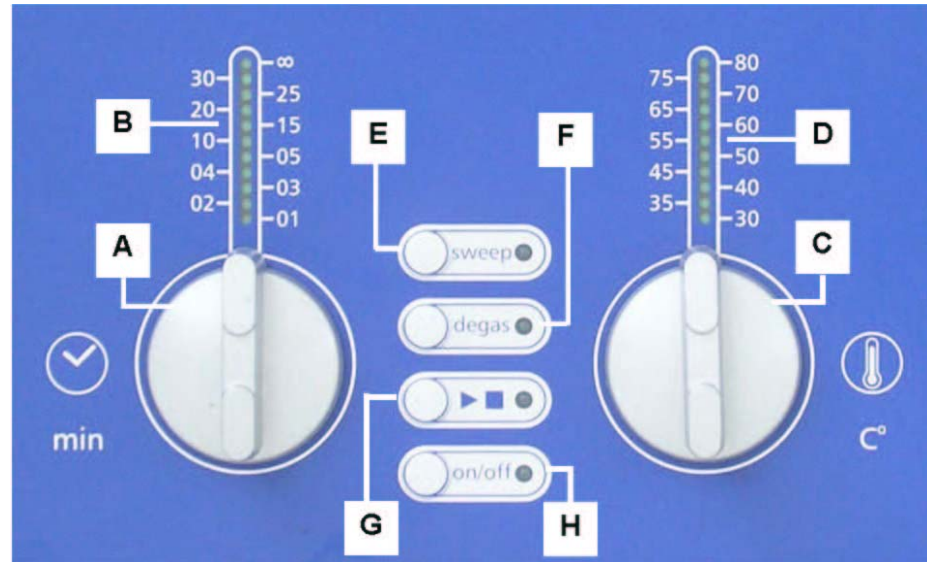

Fig. 7.1 JOKE® Basic-Clean controls
• Fig. 7.1 Drain with blanking cap and installed hose nozzle